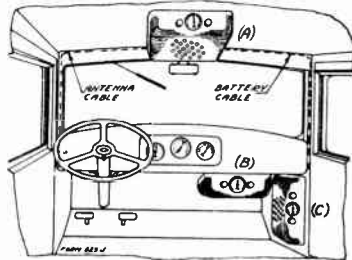

Fig. 1—General Mounting Positions
The top mounting or securing of the receiver to the roof of the car is the method of attachment for which this receiver is primarily designed. (see Fig. 1 (A)). The receiver is very low in height and will mount in back of the car header without obscuring front or rear vision. Less difficulty will be experienced with getting into the car when the set is mounted in this position.
If top mounting cannot be used the receiver may be mounted to the instrument panel as shown in Fig. 1 (B). In general it will be mounted at the right side (facing forward) in order to clear car controls.